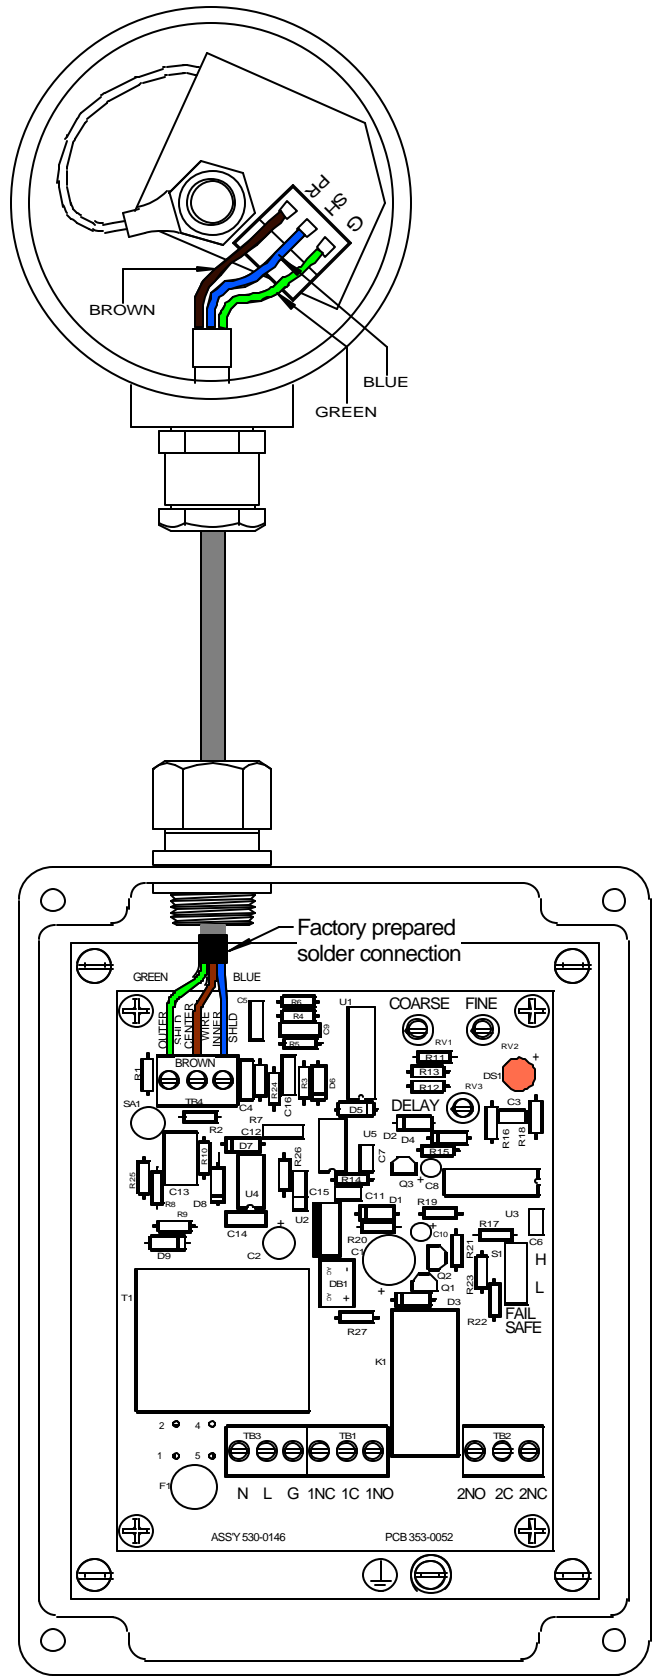

Figure 1.5
- FIGURE 1.5 9**
The remote probe is connected to the electronics with a teflon triaxial cable at least 10 feet but not more than 20 feet long. Beldon number 88232 cable is recommended. The both ends of the cable are prepared at the factory and should be connected as shown in Figure 1.5 on page 13. The Brown wire connects to the Center Wire terminal, The Blue wire connects to the Inner Shld terminal, and the Green wire connects to the Outer Shld terminal.